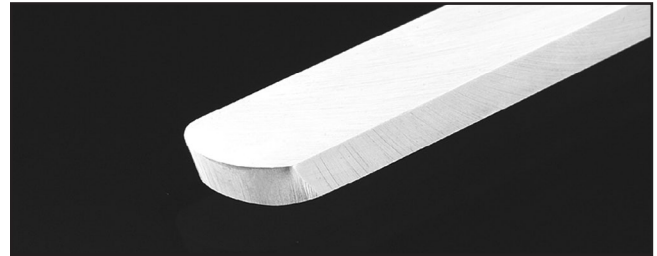

Figure 20. Round nose scraper.
- **Scrapers**—Mainly used where access for other tools is limited, such as hollowing operations. This is a flat, double-ground tool that comes in a variety of profiles (Round Nose, Spear Point, Square Nose, etc.) to match many different contours. **Figure 20** shows an example of a round nose scraper.